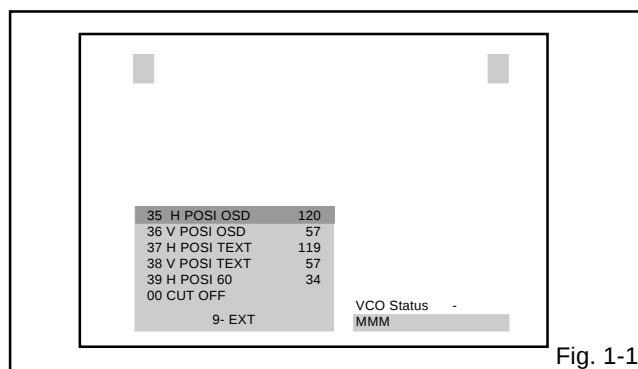

Fig. 1-1
1. In the condition of NO indication on the screen. Press the VOL. DOWN button on the set and the Channel button **(9)** on the remote control for more than 2 seconds to appear the adjustment mode on the screen as shown in **Fig. 1-1**.
3. Activate the adjustment mode display of **Fig. 1-1** and press the channel button **(13)** on the remote control to select "VCO COARSE".
4. Activate the adjustment mode display of **Fig. 1-1** and press the channel button **(01)** on the remote control to select "RF AGC".
4. Activate the adjustment mode display of **Fig. 1-1** and press the channel button **(00)** on the remote control to select "CUT OFF".